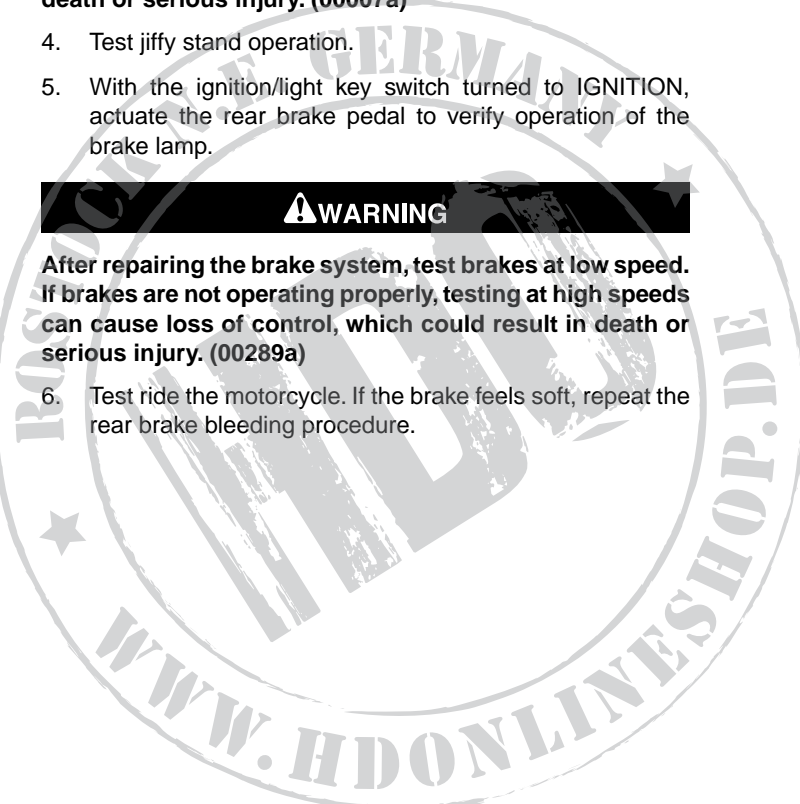

Figure 3. Cable Strap Location
4. See Figure 3. Install the cable straps at locations (1).